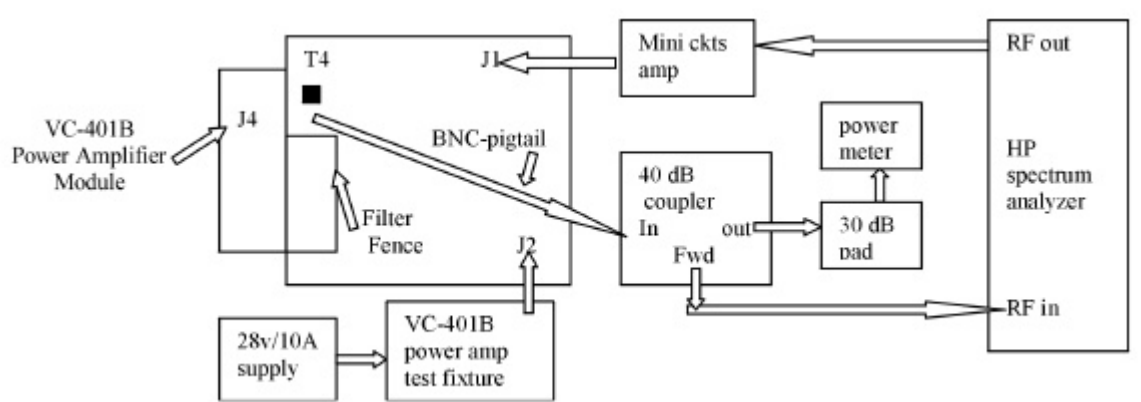

Figure 3-7 Power Amplifier Pre-Filter Swept Flatness Connection
6. Connect the cable from the Mini Circuits driver amp to J1 as shown in Figure 3-7